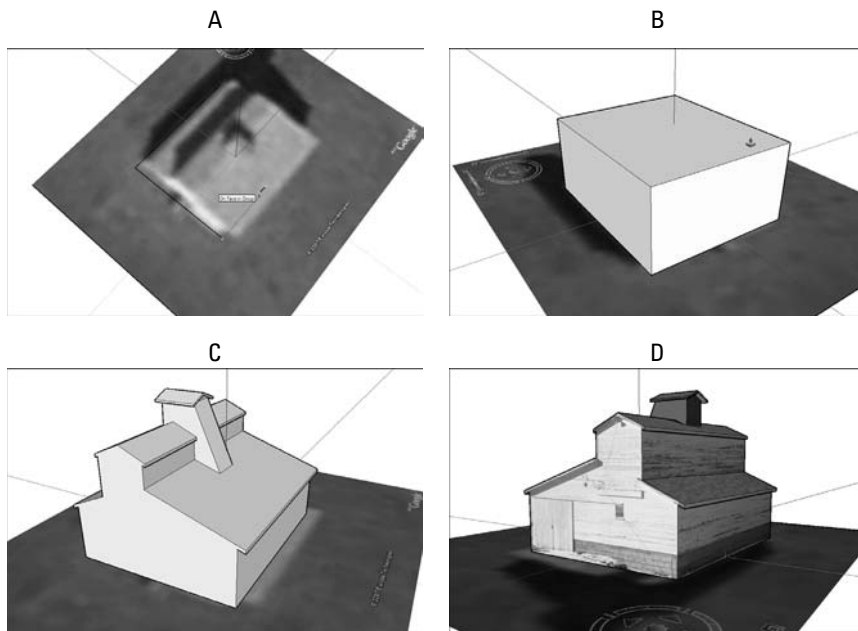

Figure 11-5:
2. Trace the footprint of the building you want to model on the imported black-and-white image. See image A in Figure 11-5.
3. Use Push/Pull to extrude the footprint to the correct height (see image B in Figure 11-5).